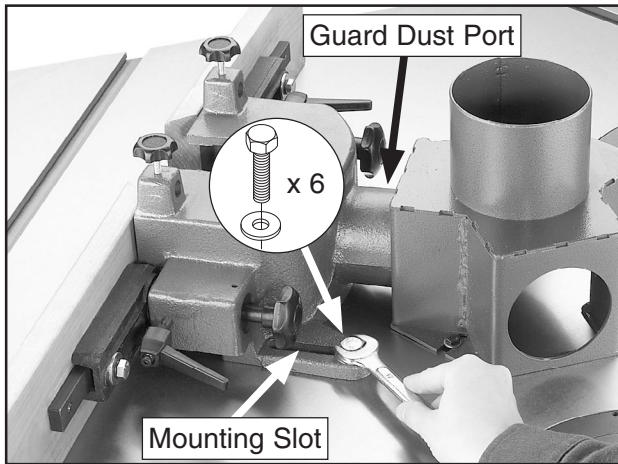

Figure 15. Securing fence assembly and guard to the table.
- Secure the fence and guard assemblies to the table with (6) M10-1.5 x 30 hex bolts and 10mm flat washers, as shown in **Figure 15**.